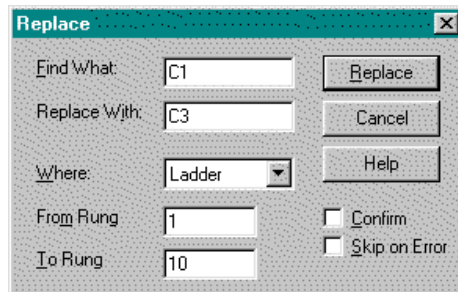

Figure 6.6a
- From the **E**dit menu (Ctrl+R), select **Replace**, and the Replace dialog box appears (Figure 6.6a).